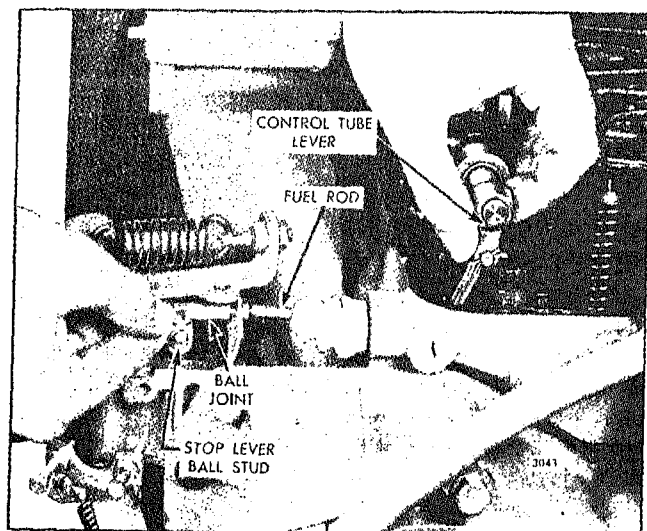

Fig. 4 - Adjusting Fuel Rod Length
7. Loosen the nut which locks the ball joint on the fuel rod. Hold the fuel rod in the full-fuel position and adjust the ball joint until it is aligned and will slide on the ball stud on the stop lever (Fig. 4). Position the shutdown cable clip and tighten the fuel rod lock nut to retain the adjustment.